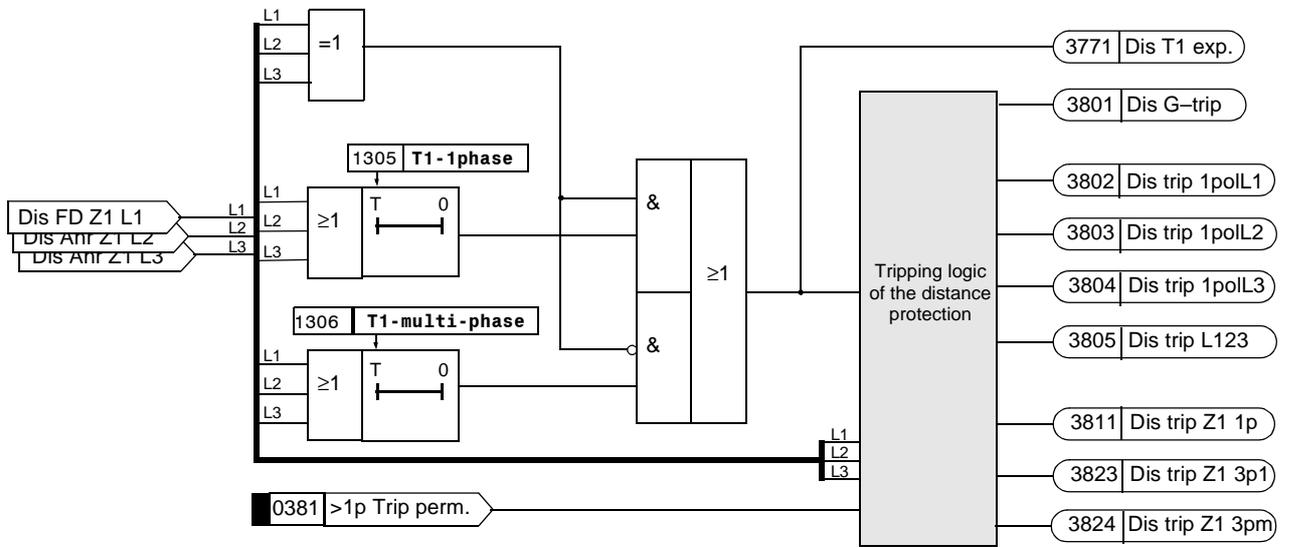
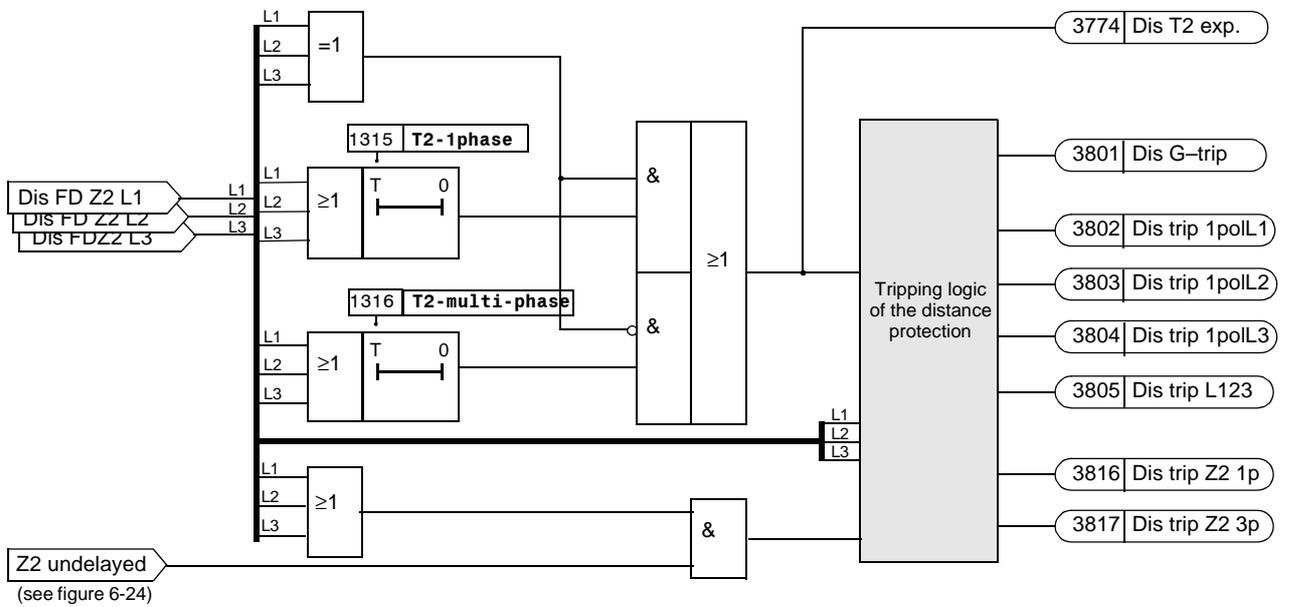
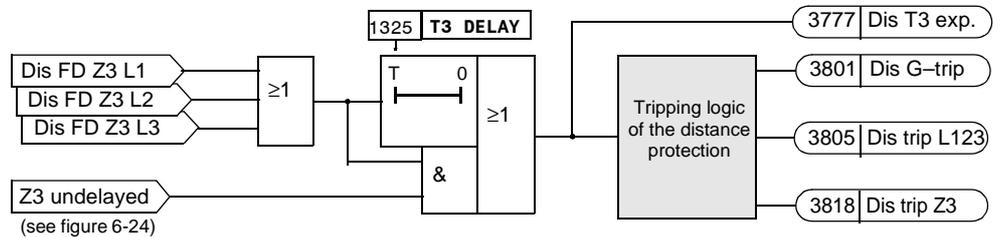
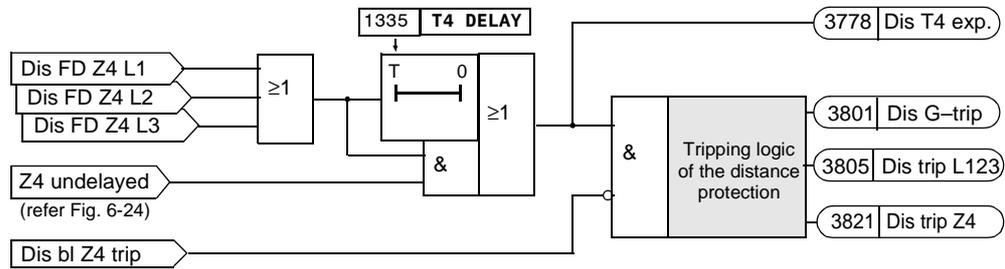

Figure 6-35 Tripping logic for the 1st Zone
Figure 6-36 Tripping logic for the 2nd Zone
Figure 6-37 Tripping logic for the 3rd Zone
Figure 6-38 Tripping logic for the 4th and 5th Zone, shown is zone Z4
**Zone Logic of the Independent Zones Z1 up to Z5** As was mentioned in the description of the measuring technique, each distance zone generates an output signal which is associated with the zone and the affected phase. The zone logic combines these zone fault detections with possible further internal and external signals, starts the associated delay times and arrives at the reaches the possible trip decision. The simplified zone logic is shown in Figure 6-35 using for zone 1, Figure 6-36 for zone 2 and Figure 6-37 for the third zone. Zones Z4 and Z5 function according to Figure 6-38.
The output signals generated by the individual zones are combined in the actual tripping logic to form the trip output signals. The signal **Dis.Gen. Trip** is the general trip command (refer to Fig. 6-35 up to 6-39). The single-pole information **Dis.Trip 1pL1**, **Dis.Trip 1pL2**, **Dis.Trip 1pL3** implies that tripping will take place single-pole only. The **Dis Trip L123** signal indicates the three-pole trip command. Furthermore, the zone that initiated the tripping is identified; if single-pole tripping is possible, this is also alarmed, as shown in the zone logic diagrams (Figures 6-35 up to 6-39). The actual generation of the commands for the trip relay takes place in the tripping logic of the device. (refer to Sub-section 6.19.4).